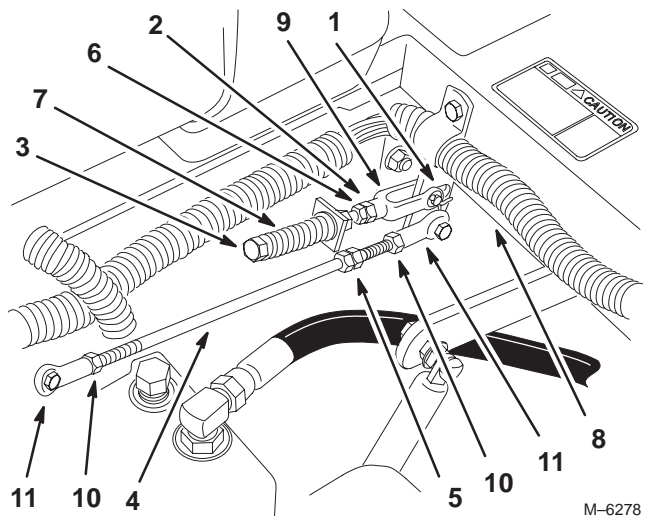

Figure 54
3. Move lever to the neutral position but **not locked** (Fig. 54).
4. Pull lever back until the clevis pin (on arm below pivot shaft) contacts the end of the slot (just beginning to put pressure on the spring) (Fig. 54).
1. Loosen the locknuts at the ball joints on pump control rod (Fig. 54).
3. Adjust pump rod length by rotating double nuts on rod, in the appropriate direction, until wheel is still or slightly creeps in reverse (Fig. 54).
6. Tighten the locknuts at the ball joints (Fig. 54).